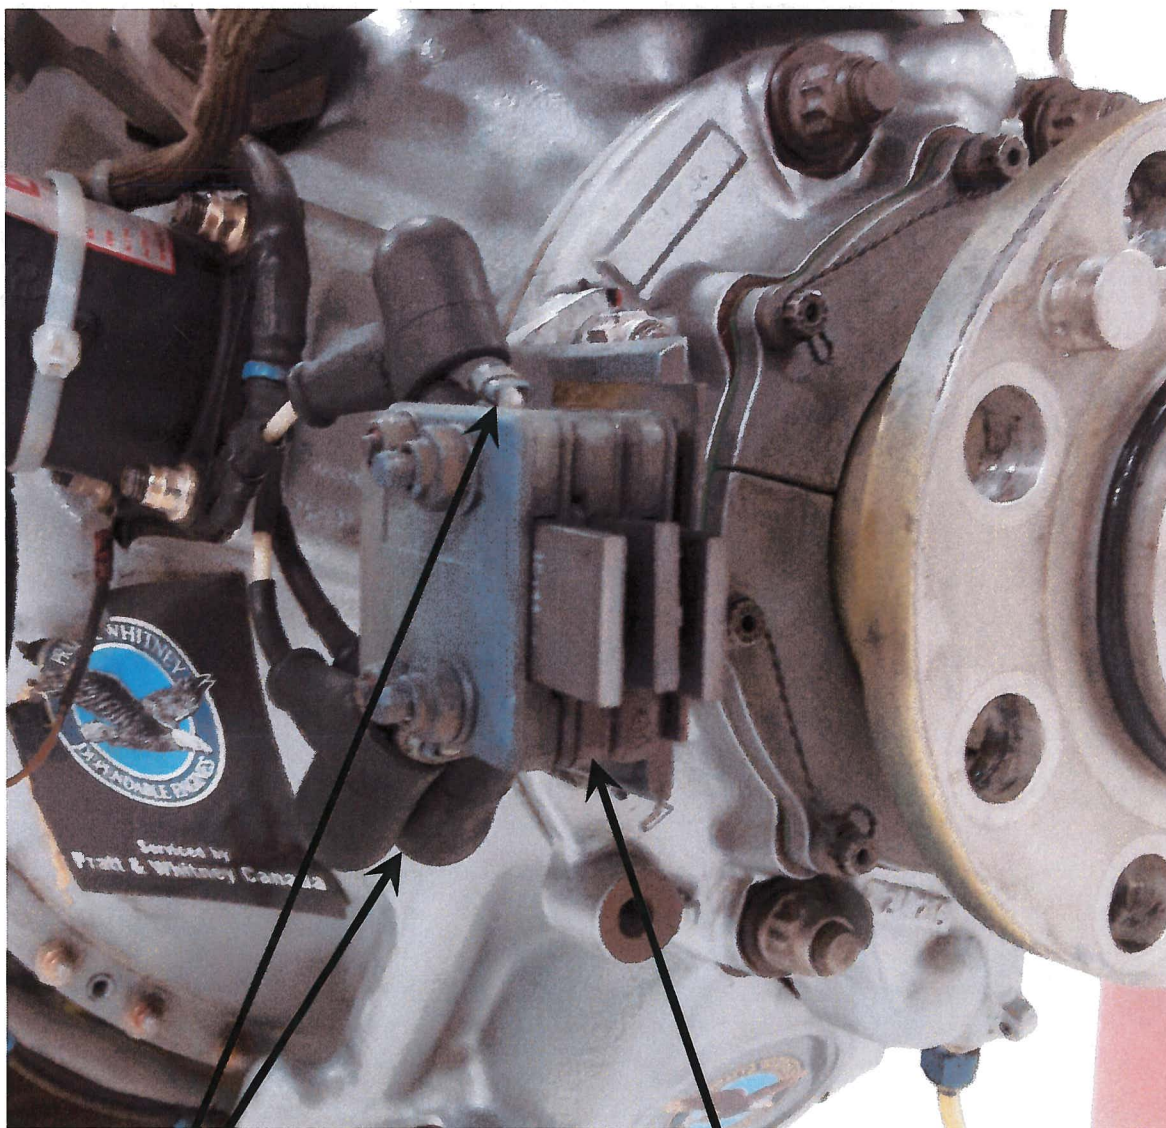

Figure 1
- A. Disconnect existing brush block wires from brush block as shown in Figure 1. Confirm airframe wire labels are as follows:
- B. Remove existing de-ice brush block and bracket and attaching parts from the engine gearbox as shown in Figure 1.